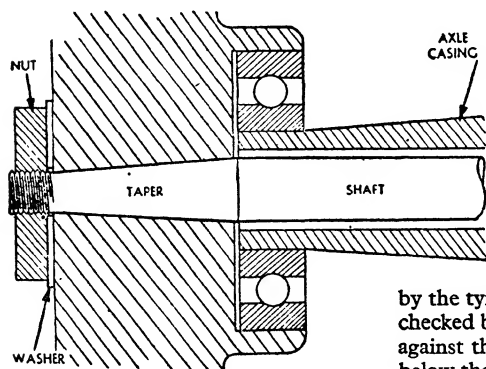

Fig. 5. Shaft and casing each bear part of the load in the present-day three-quarter floating-axle assembly.
**THREE-QUARTER FLOATING AXLE.** This system (Fig. 5) is a combination of two of the previous examples, the load being shared between the axle shaft and the casing. The hub is secured by key and taper but it also carries the outer race of a ball bearing, the inner race of which supports the axle casing.